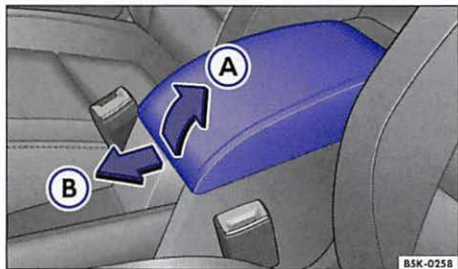

Fig. 42 Front center armrest.
To *open* the center armrest, pull the armrest and latch upward in the direction of the arrow $\Rightarrow$ fig. 42 (A).